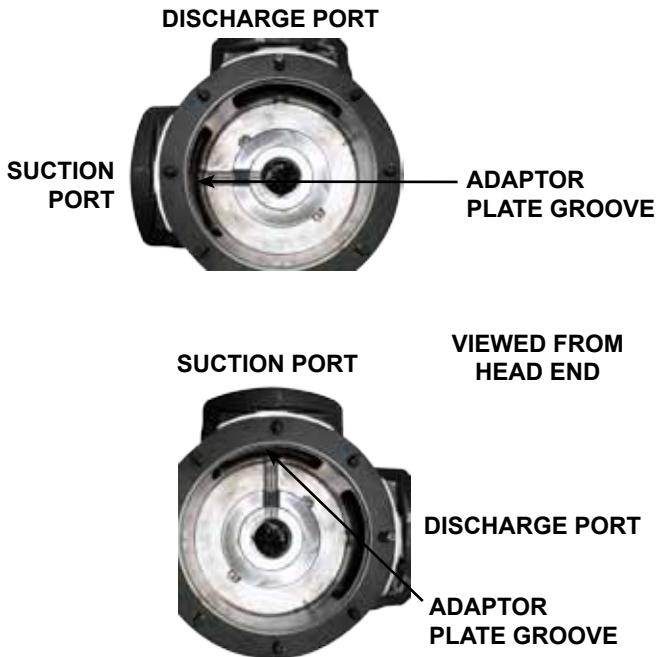

FIGURE 15
2. Position the adaptor plate so the adaptor plate groove aligns to groove in the casing bore at suction port, see Figure 15. Carefully slide the adaptor plate into the bracket side of the casing. Use care to prevent cutting the O-ring with the edge of the adaptor plate or casing. Secure into position by tightening the eight capscrews.
4. Apply a light oil to the first set of thrust washers on the side of the thrust washer that will touch the rotor or adaptor plate. Place the thrust washer that does not have a groove onto the shaft so that the blind holes in the thrust washer will line up with the drive pins on the back of the rotor. Place the thrust washer with a groove onto the adaptor plate so that the groove in the thrust washer will line up with the grooves in the adaptor plate, see Figure 15.